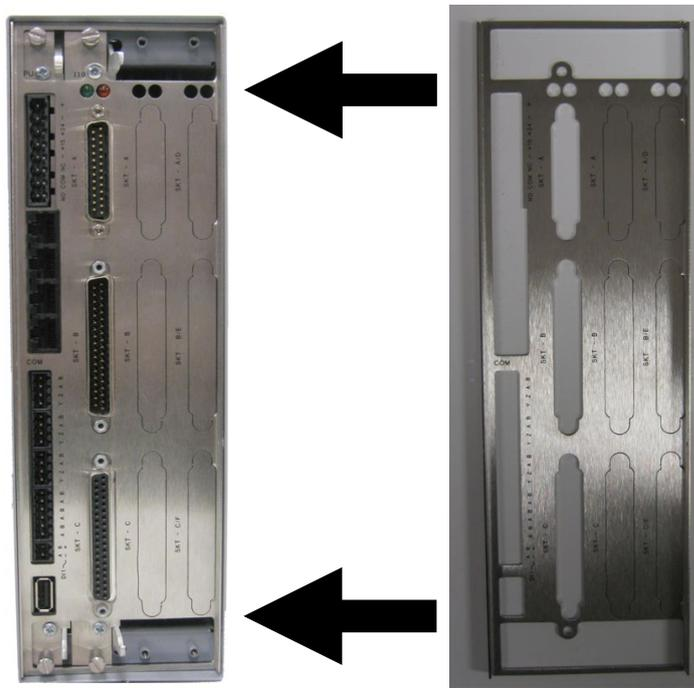

Figure 2-12. Security Backplate in Place
2. Place the security backplate over the modules already installed in the S600+ and secure the backplate to the I/O module using the two screws you removed in step 1 (see *Figure 2-12*).
**Note:** In actual operation, the two right-most slots on the S600+ shown in *Figure 2-12* would either contain modules or would be covered by blanking plates.